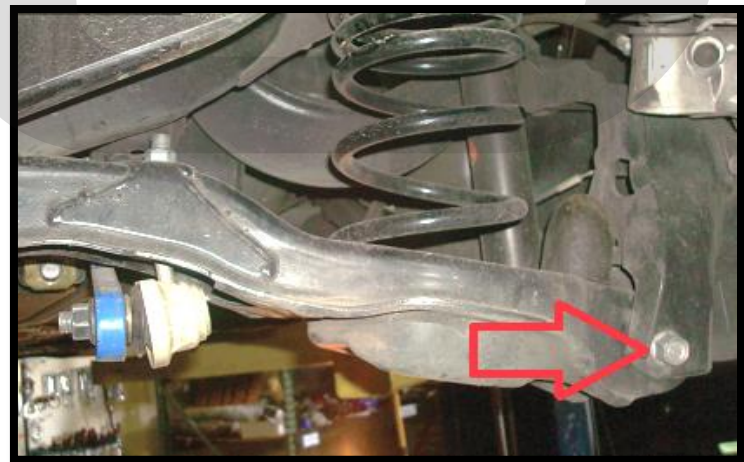

Figure 6d
f) **Remove the 17mm bolt that holds the spindle to the control arm** (**Red circle in Figure 6d**) using a 17mm socket and ratcheting wrench